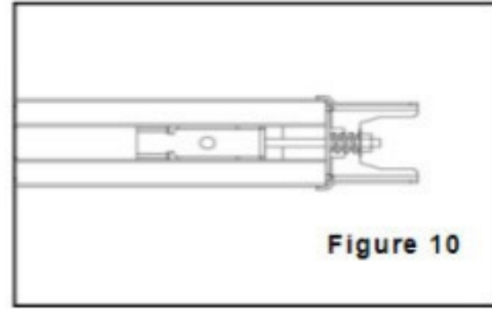

Figure 10
2. Tight the nut to the right position as shown in Fig.10, cut the plastic tape, cut the plastic thread on the sprocket, then the whole rail assembled finished.